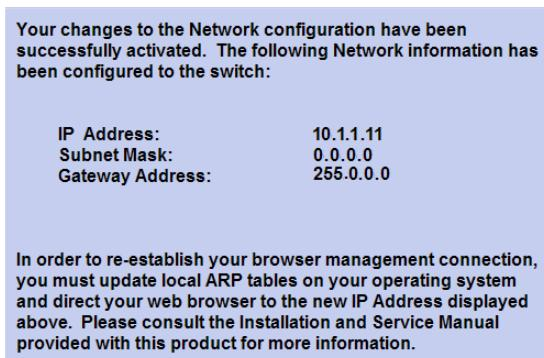

Figure 48 Network configuration changes activated
3. Click **Activate** to save the information. The following message box is displayed (Figure 48).